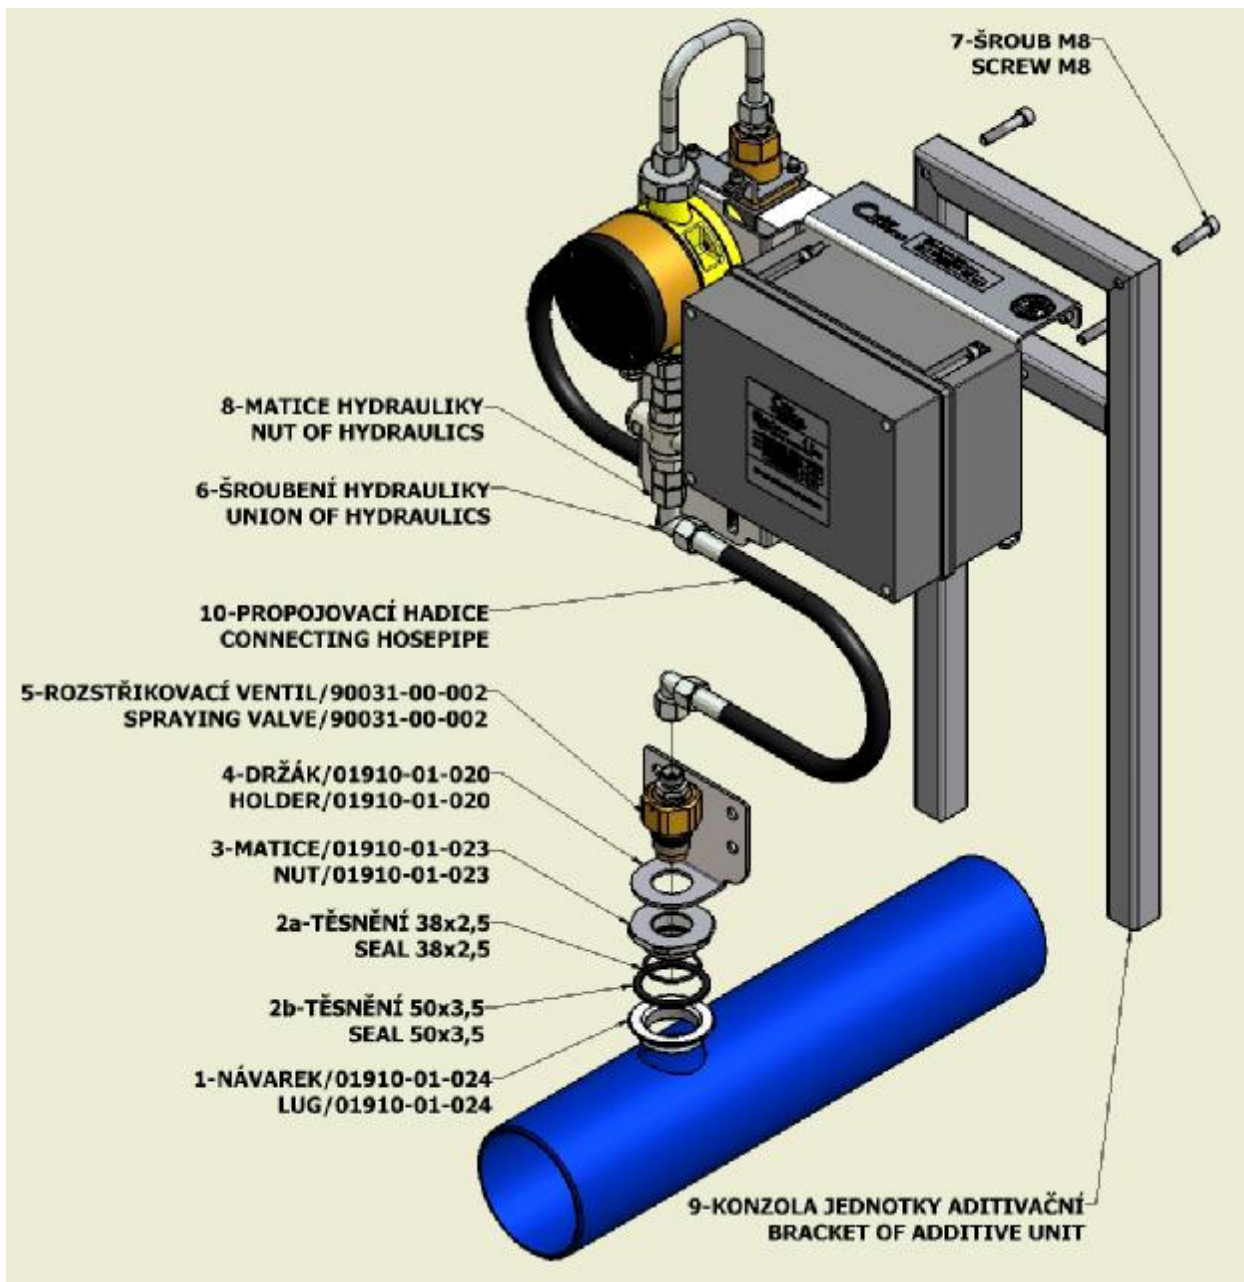

Figure 4.3 Additiv Unit installation outside of the pipeline
1. The Additive unit fasten with the bracket of additive unit by 3 M8 screws (item 7) as shown in figure 4.3.
3. Connecting hosepipe (item 10) connect the dosing unit with spraying valve as shown in figure 4.3.